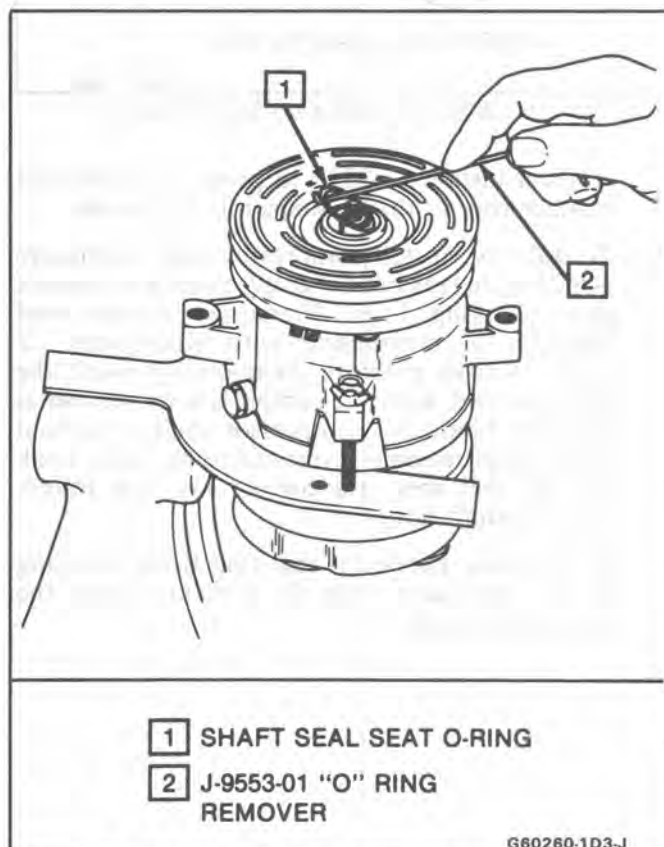

Fig. 26 Removing Shaft Seal Seat O-Ring
7. Remove and discard the seal O-ring from the compressor neck using O-ring remover J-9553-01 (Fig. 26).